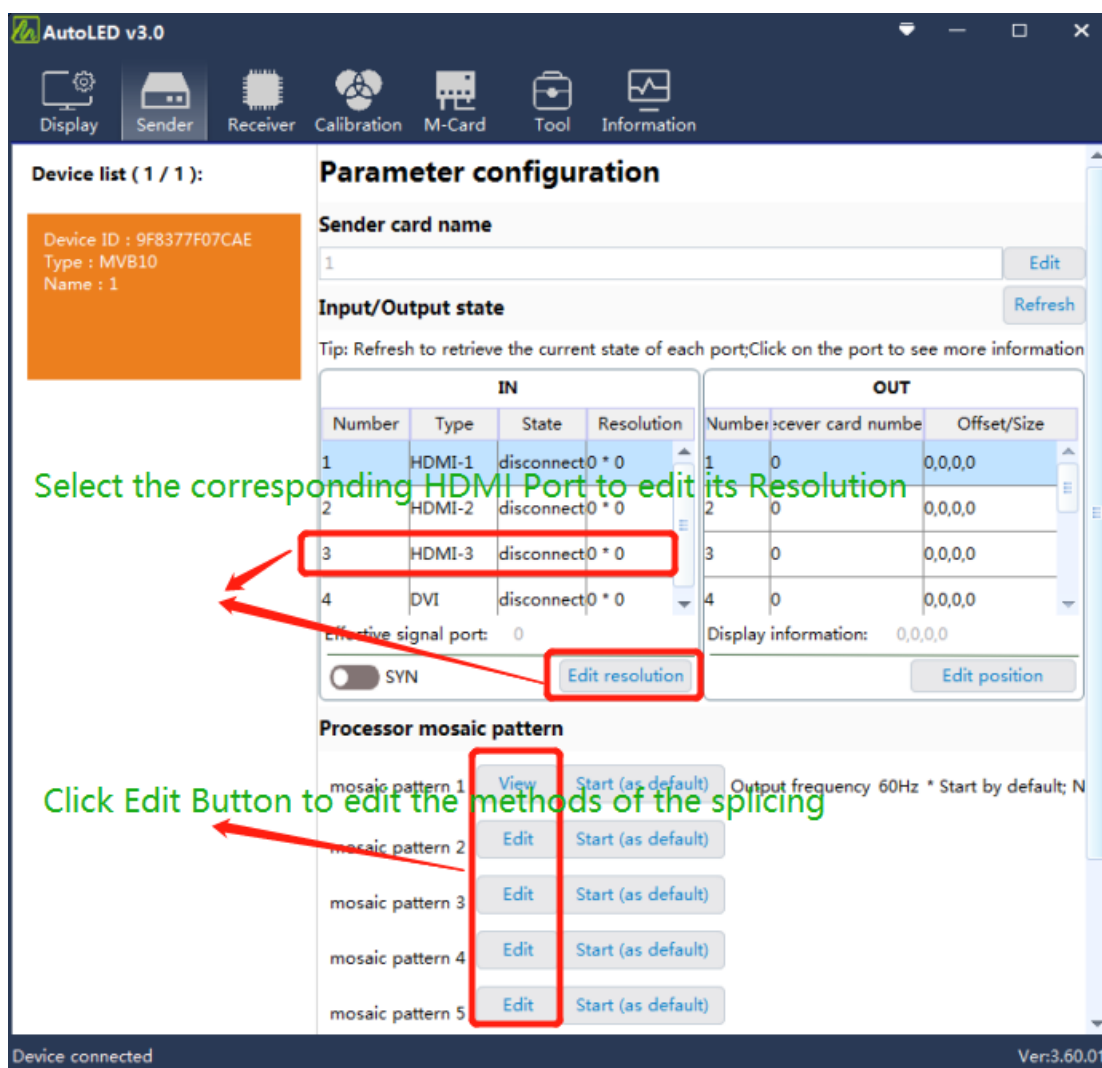

Figure 4-8-1 Image Control Operation
(1) When the device is connected to the MVB series products or similar products, the interface of the sending card changes, you can modify the resolution, position and the splicing method, as shown in Figure 4-8-1